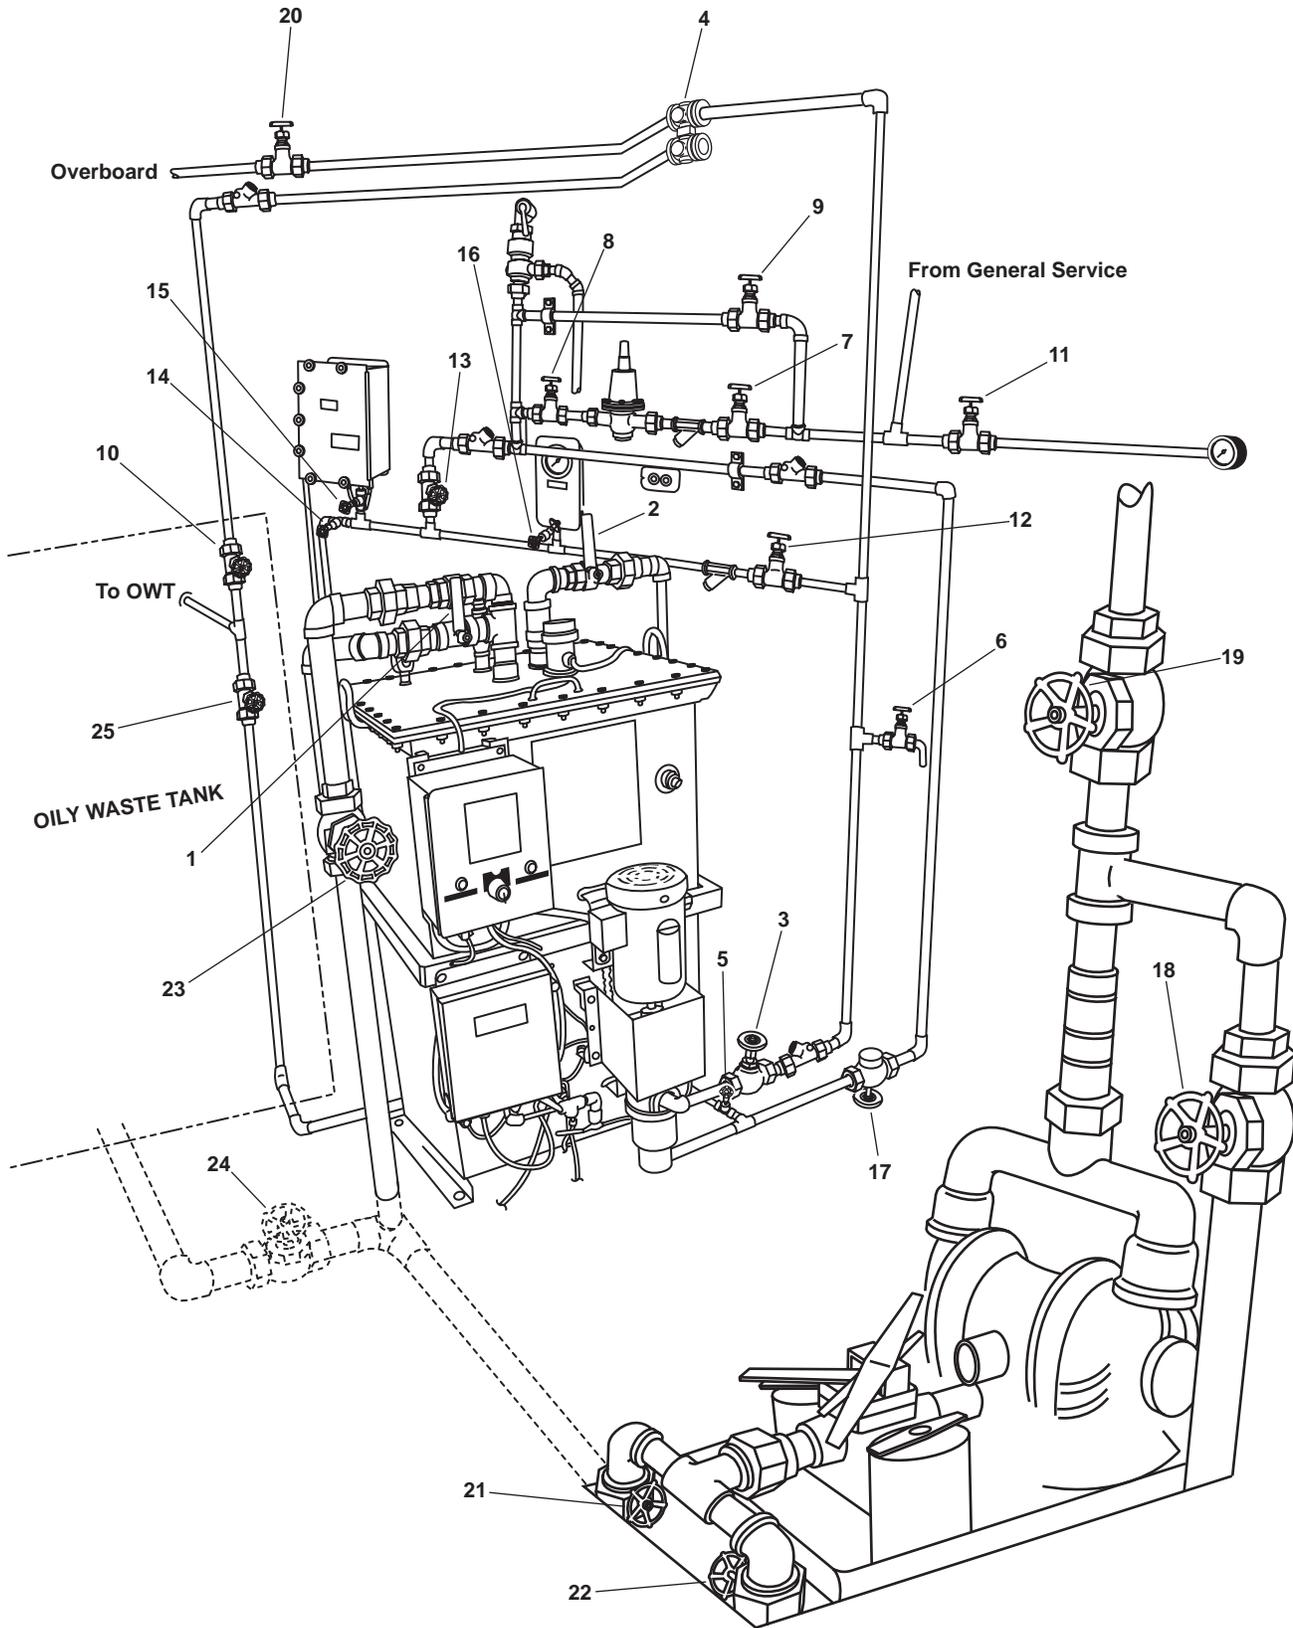

Figure 1. OWS, OB, and OCM Piping
Coalescer Beads (Item 6, Figure 1 WP 0025 00)
Gasket, Coalescer (Item 7, Figure 1, WP 0025 00)
Gasket, Tank (Item 5, Figure 1, WP 0025 00)
- Align the Oil Water Separator (OWS), the Oily Bilge (OB), and Oil Content Monitor (OCM) valves as indicated in table 1 and figure 1.